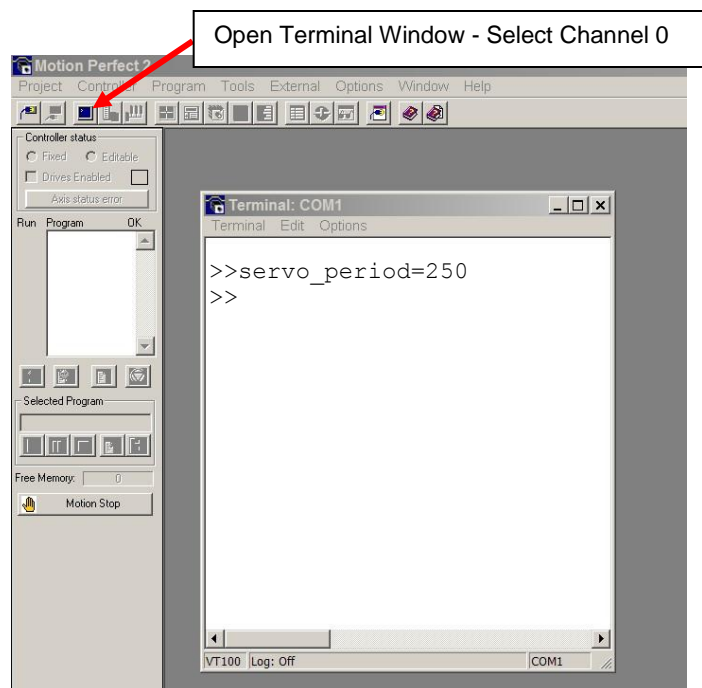

Fig 5 – Setting MC302-K SERVO_PERIOD
2. Open the Channel 0 Terminal window as shown in Fig. 5.
As with all Trio controllers, the Command Line interface ">>" can be a useful tool for debugging a system as shown in Fig 5. Drive parameters can be read and written to using the DRIVE_ commands listed in Section 5.0. Other Trio BASIC command can be issued here such as FORWARD, CANCEL, MOVE(x). Visit www.triomotion.com for the complete manual of commands.